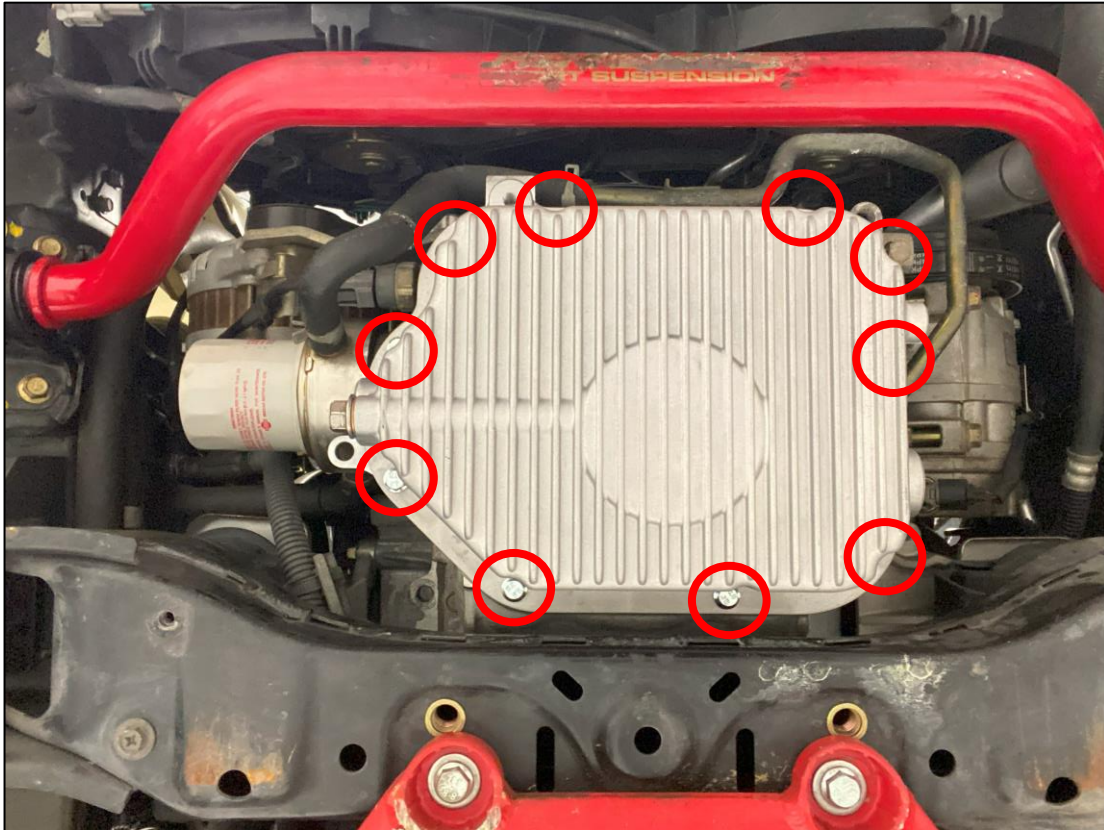

Figure 9
13. Ensure that the mating surface of the engine is clean and free of residual oil and place the new Oil Pan into position. Loosely secure with the (10) ten M6 x 16mm Flanged Hex Head Screws. *Figure 9.*